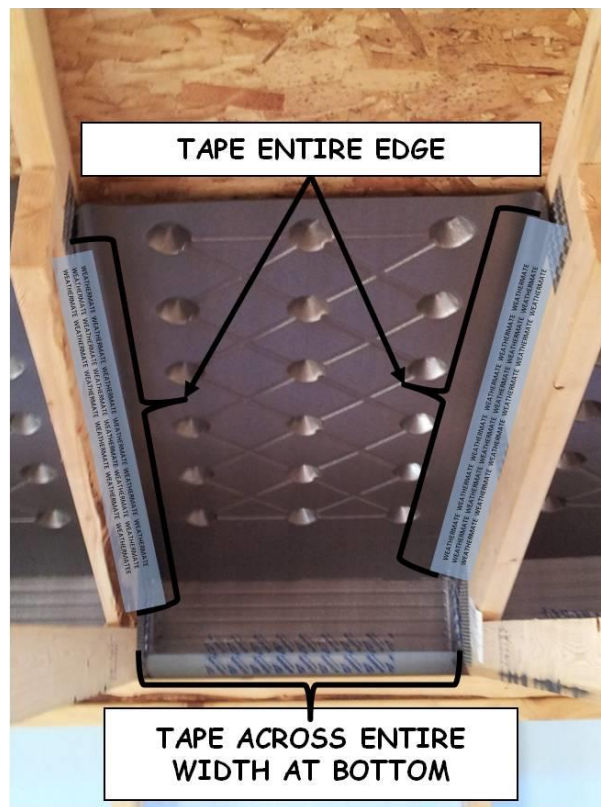

Figure 10-2. Proper Vent Installation.
3. Staple (three per side) the sides of the vent to the trusses and tape the entire width of the bottom of the flap to the foamboard and the entire length of the two sides to the trusses using air sealing tape, as shown in Figure 10-2.